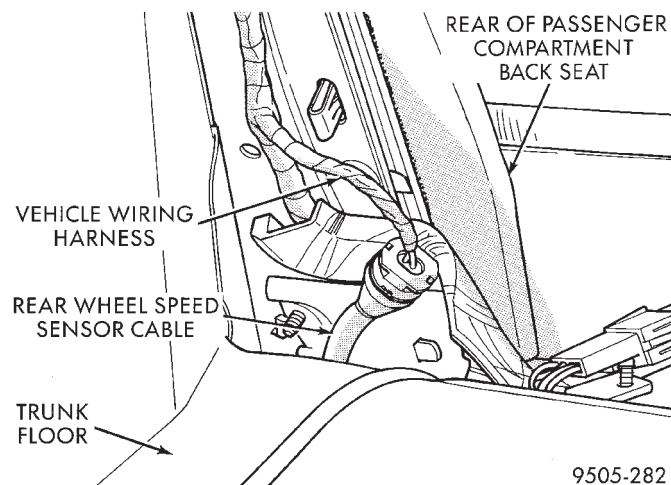
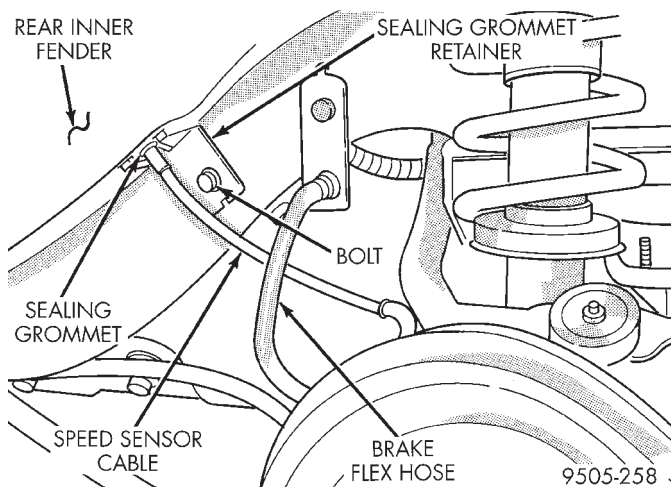
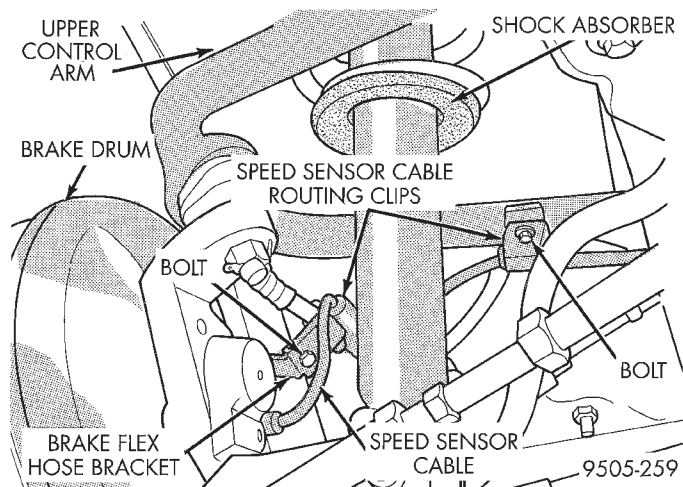

**Fig. 37 Rear Speed Sensor Cable Connection To Vehicle Wiring Harness**
**Fig. 38 Rear Speed Sensor Cable Attachment To Body**
**Fig. 39 Speed Sensor Cable Attachment To Rear Suspension**
(1) Unplug the speed sensor cable connector from the vehicle wiring harness (Fig. 37). **Access for speed sensor cable to vehicle wiring harness connection is in the trunk of the vehicle.**
(2) Raise vehicle on jack stands or centered on a frame contact type hoist. See Hoisting in the Lubrication and Maintenance section of this manual, for the required lifting procedure to be used for this vehicle.
(3) Remove the rear tire and wheel assembly from the vehicle.
(4) Remove speed sensor cable sealing grommet retainer (Fig. 38) from the rear frame rail of the vehicle. Then remove speed sensor cable sealing grommet and cable from hole in body of vehicle.
(5) Remove speed sensor routing clips from the rear upper control arm and brake flex hose routing bracket (Fig. 39).
(3) Install speed sensor cable routing clips (Fig. 39) on the brake flex hose bracket and the bracket on the upper control arm. Install and securely tighten the routing clip attaching bolts.
(4) Install connector end of speed sensor cable through hole in inner fender and into trunk of vehicle.
(5) Install speed control sealing grommet into hole in inner fender. Install the sealing grommet retainer and attaching bolt (Fig. 38) on rear frame rail. Securely tighten retainer attaching bolt.
(6) Install the tire and wheel assembly on vehicle.
(7) Lower vehicle.
(8) Plug speed sensor cable connector into vehicle wiring harness (Fig. 37). **Install foam sleeve back over the speed sensor cable to vehicle wiring harness connection to prevent connector from rattling against body of vehicle.**
(9) Road test vehicle to ensure proper operation of the base and ABS systems.